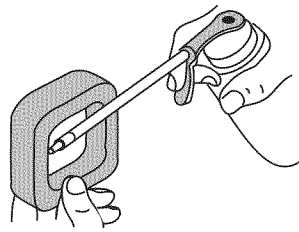

Fig. 36
- Apply enough clean SAE 30 motor oil to lightly coat the filter (Fig. 36).